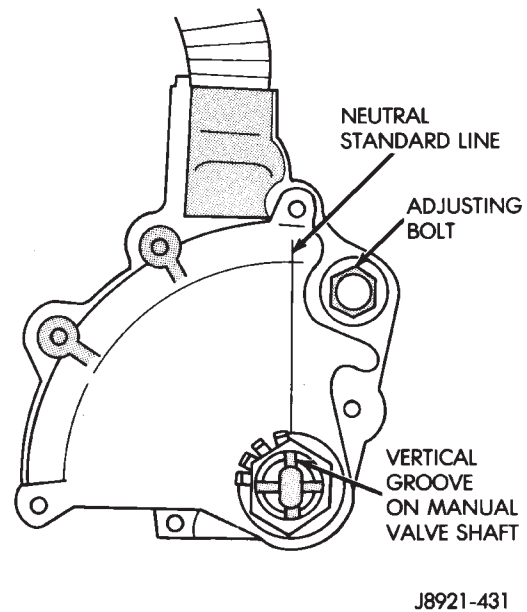

Fig. 6 Park/Neutral Position Switch Adjustment
(2) Rotate manual shift lever all the way rearward. Then rotate lever forward two detent positions to Neutral.
(3) Install switch on manual valve shaft and install switch adjusting bolt finger tight. Do not tighten bolt at this time.
(4) Install tabbed washer on manual valve shaft and install switch attaching nut. Tighten nut to 6.9 N·m (61 in. lbs.) torque but do not bend washer lock tabs over nut at this time.
(5) Verify that transmission is in Neutral.
(6) Rotate switch to align neutral standard line with vertical groove on manual valve shaft (Fig. 6).
(7) Align switch standard line with groove or flat on manual valve shaft.
(8) Tighten switch adjusting bolt to 13 N·m (9 ft. lbs.) torque.
(9) Bend at least two washer lock tabs over switch attaching nut to secure it.
(10) Connect shift linkage rod to shift lever on left side of case.
(11) Connect switch wires to harness and lower vehicle.
(12) Check switch operation. Engine should start in Park and Neutral only.